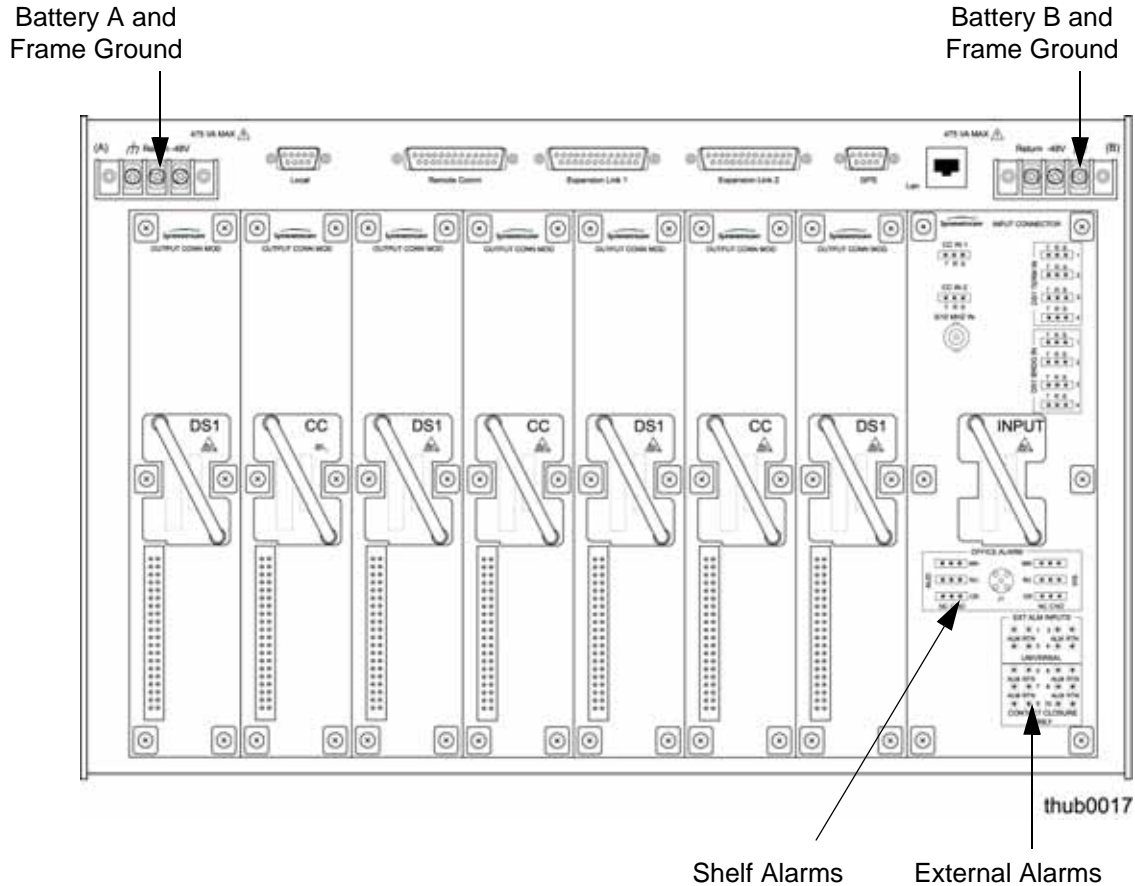
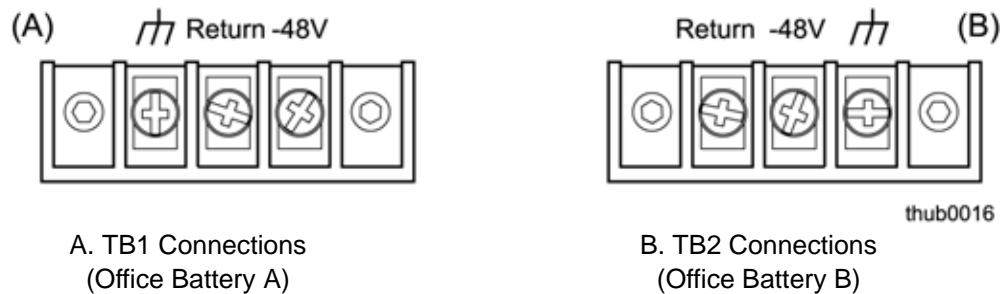

Figure 3-7. Connectors on the Rear Panel of the Master Shelf
Figure 3-9. Power and Ground Connections on the Master Shelf
The TimeHub 5500 has redundant -48VDC power input connections labeled A and B. Both are located in the upper-right and upper-left corners of the rear panel, as shown in Figure 3-7. A separate frame ground lug is provided on the upper corner of the side panel.
Frame ground connections are made on power terminal blocks TB1 and TB2 on the rear panel of the shelf. Figure 3-7 illustrates the terminal connections.
2. Crimp the supplied spade lug to one end of the 16 AWG wire and connect it to the ground terminals on TB1 and TB2 (Figure 3-7).
2. Locate the power terminal blocks on the rear panel (Figure 3-9).
To verify that the power connections to the TimeHub 5500 Main shelf are correct, follow the steps in this section. Use a digital multimeter (Fluke 77 or equivalent) to make the measurements. Refer to Figure 3-7, Figure 3-9, and Figure 3-19. Use this procedure for Master/Remote and Expansion shelves.
3. Disconnect the -48V battery A and battery B leads from the shelf power terminal blocks TB1 and TB2 (Figure 3-9 and Figure 3-19). (Leave the Return battery leads connected to the shelf.)